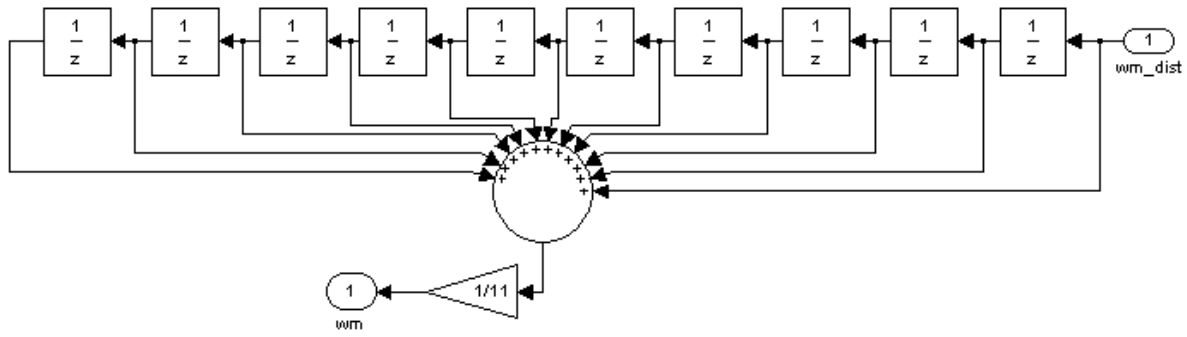

Figure 3.6: Averaging model in Simulink
- Connect all the blocks as shown in Fig. 3.6.